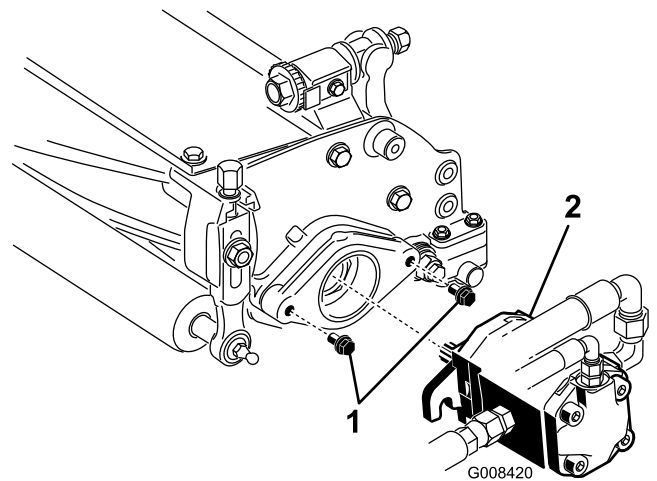

Figure 18
10. Assemble the mounting screws for the reel drive motor to each cutting unit. Leave approximately 1/2 in. (13 mm) of the threads exposed on each mounting screw (Figure 18).
counterclockwise until the flanges are encircling the studs (Figure 18).
13. Tighten the mounting bolts (Figure 18).